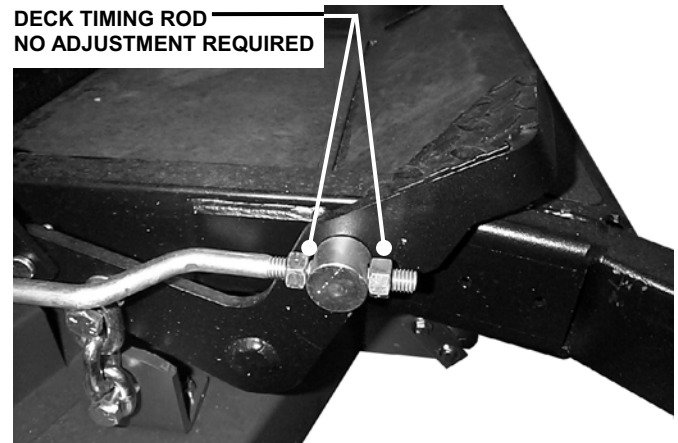

FIGURE 5.7
**NOTE:** The deck timing rod is preset at the factory and requires no adjustments. See Figure 5.7.